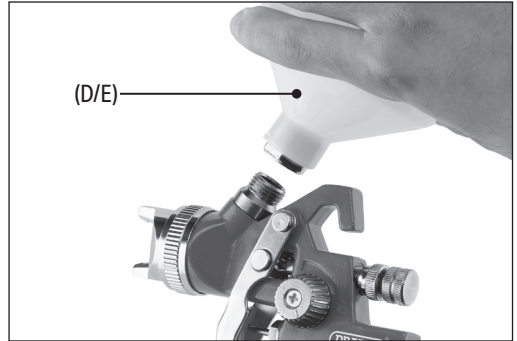

Fig. 2
1. Attach the appropriate paint cup (D) / (E) to the uppermost thread on the spray gun body (Fig. 2).